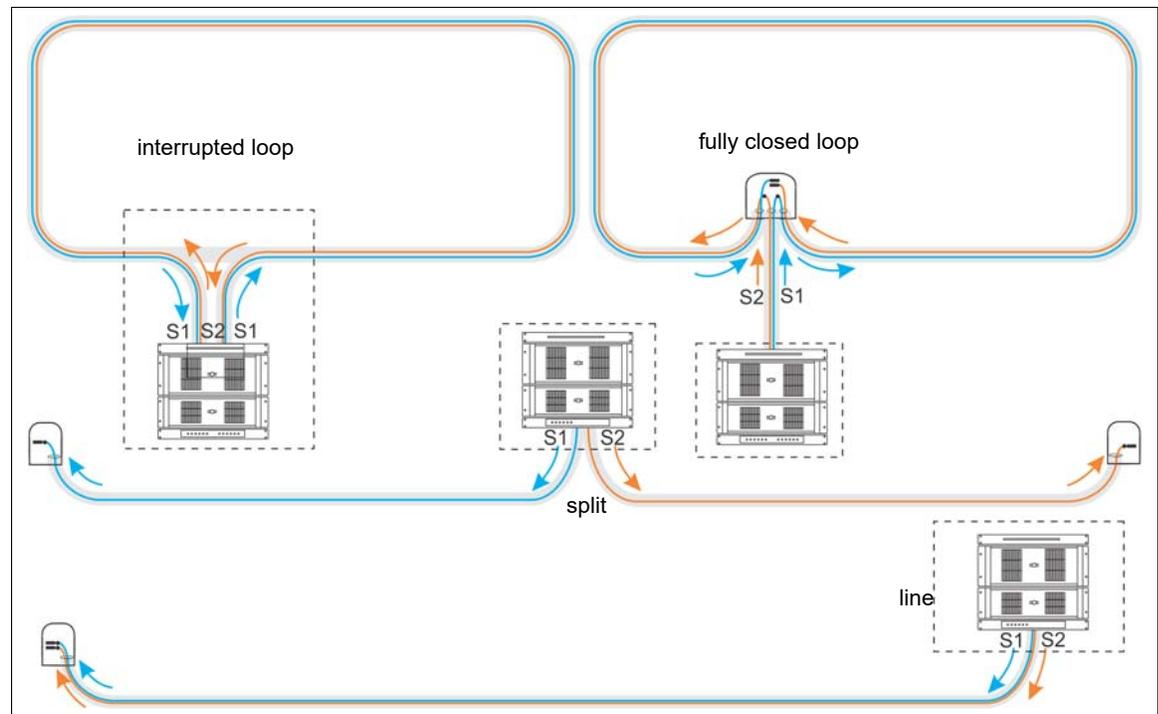

Figure 6 FiberPatrol sensor cable configurations
Figure 6 illustrates the most common FiberPatrol sensor cable configurations. Refer to Chapter 2 in the FiberPatrol Site Planning and Installation Guide (FPDA0802) for additional sensor cable configurations and installation details.
1. Specify the Length Units and Sensor Layout for this installation. Length Units are Meters or Feet. For the Sensor Layout, select Loop for configurations in which Sensor 1 and Sensor 2 run in opposite directions in one cable; select Line for configurations in which Sensor 1 and Sensor 2 run in the same direction in one cable; select split for configurations in which Sensor 1 and Sensor 2 run in opposite directions in two cables (see Figure 6).